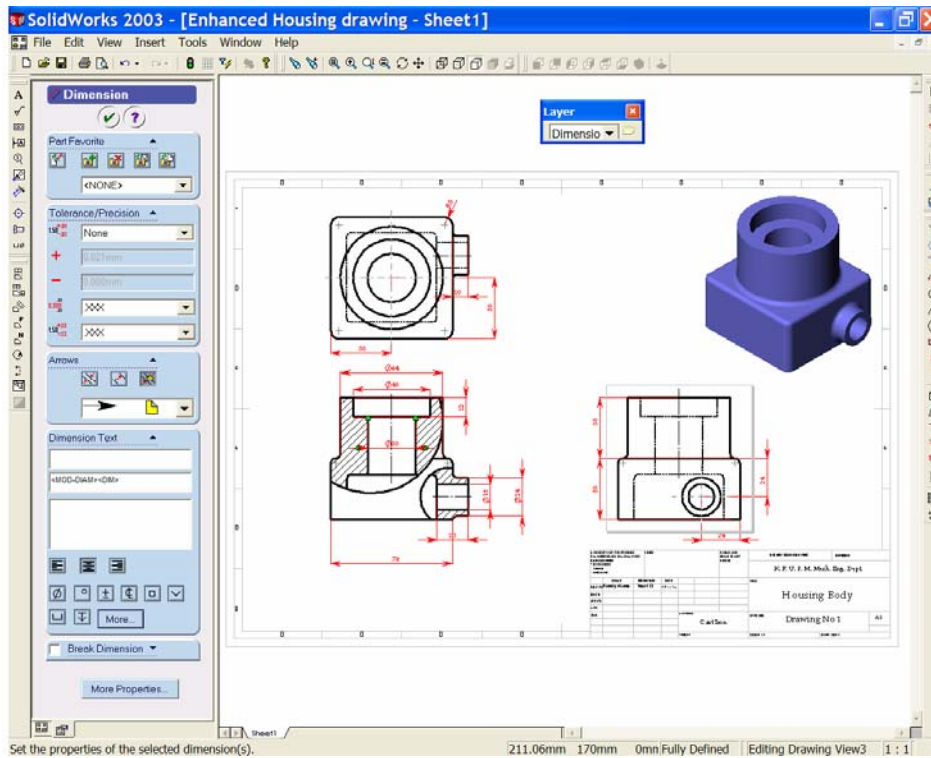
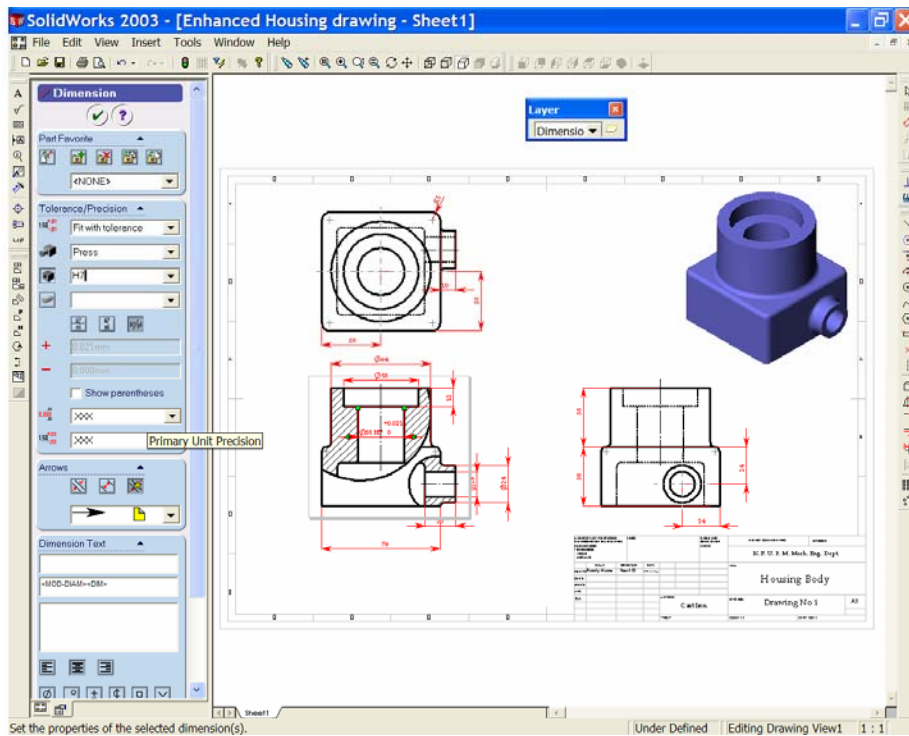

Figure 7
Figure 8
10. Three of the diameters require limits. These are the $\varnothing 30$ bore, the $\varnothing 48$ bore and the $\varnothing 16$ bore. The assignment sheet asks for an '**H7 tolerance**' on each of these diameters. To add tolerances to dimensions first, select $\varnothing 30$ to activate it, See Figure 7, this will open the dimension properties manager. In the '**Tolerance Type**' window choose '**Fit with tolerance**'. From the '**Classification**' window choose '**Press**'. From the '**Hole Fit**' window choose '**H7**'. From the '**Primary Unit Precision**' and '**Tolerance Precision**' windows choose (**.XXX [three decimal places]**). See Figure 8, and select **OK** to complete the command.